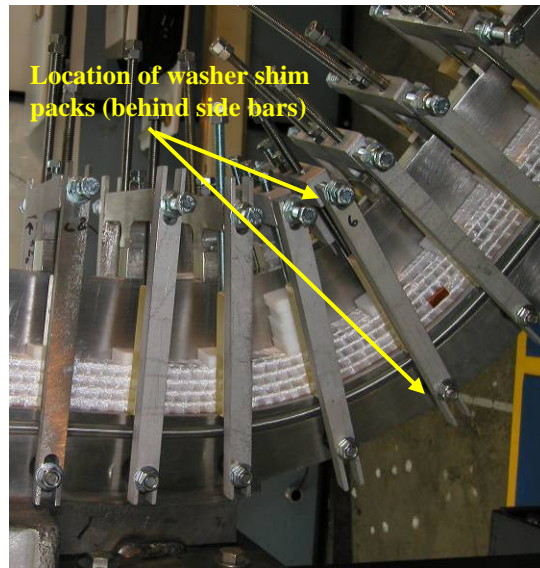

Figure 5-Location of Side bar Shims
- 6.6.3 The winding team shall install the correct shim washers on the weld studs between the casting and the side bar nuts. [See Figure 5-Location of Side bar Shims] Remove the side bars after the shims have been installed.